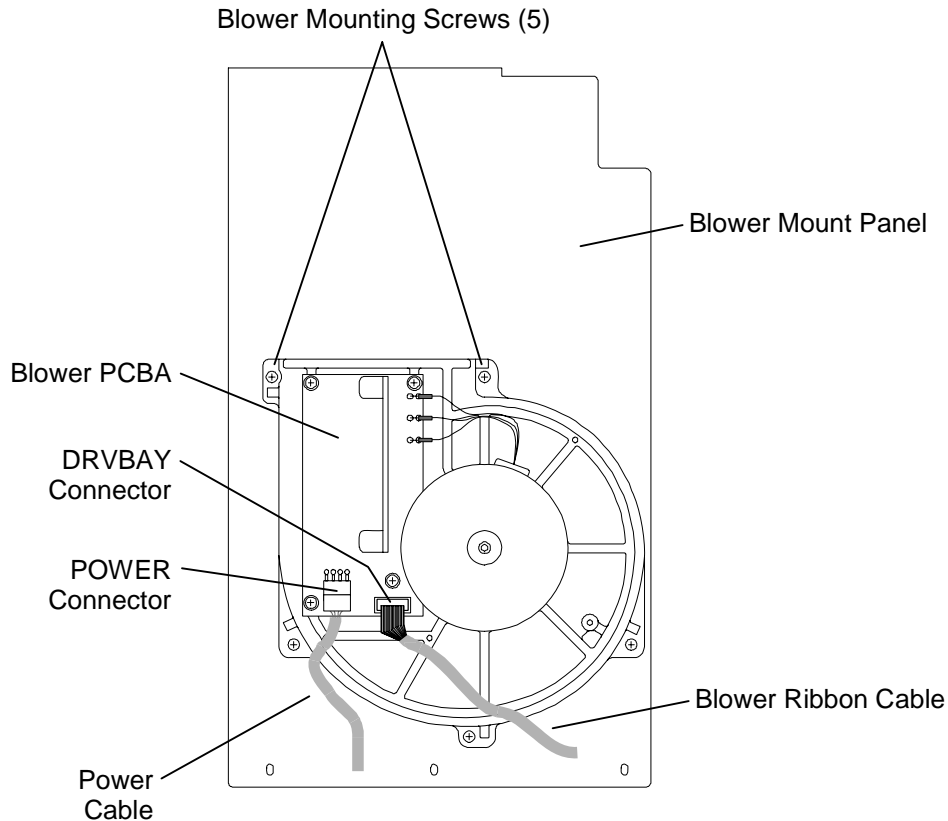

Figure 7-23 Blower Assembly Attached to the Blower Mount Panel
13. Disconnect the Power cable from the POWER connector on the Blower PCBA. See Figure 7-23.
14. Disconnect the Blower ribbon cable from the DRVBAY connector on the Blower PCBA. See Figure 7-23.
4. Plug the Blower ribbon cable into the DRV BAY connector on the Blower PCBA. See Figure 7-23. Note that the connector is keyed.
5. Plug the Power cable into the POWER connector on the Blower PCBA. See Figure 7-23.